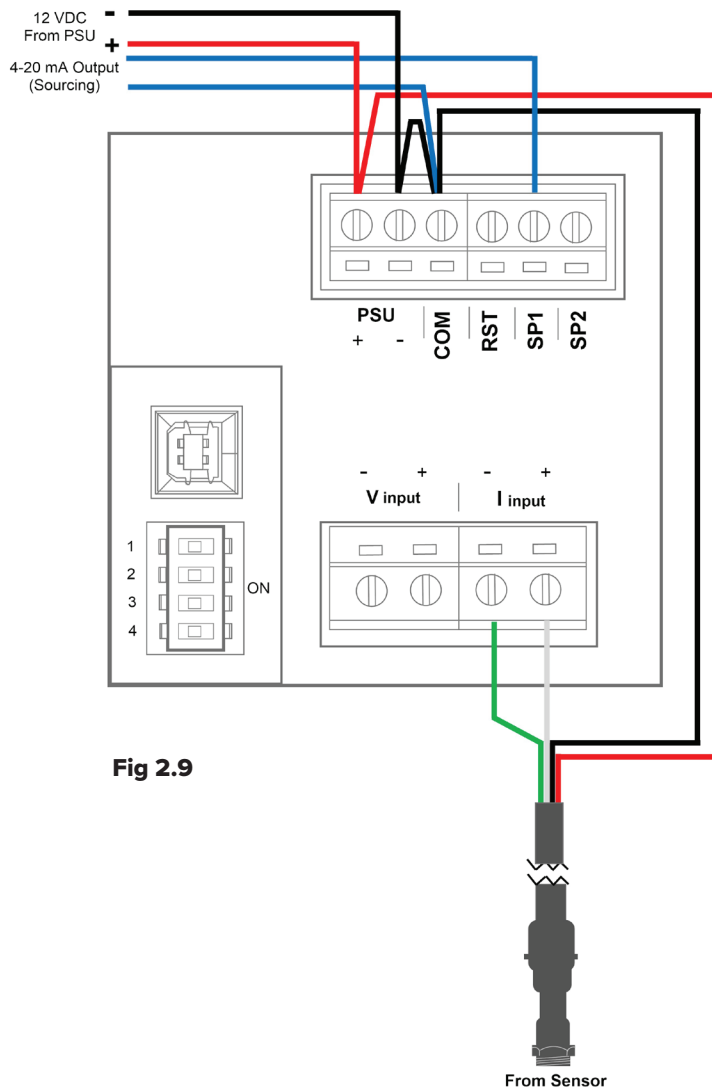

Fig 2.9
10. i) If being used, connect 4-20 mA output to external equipment such as a VFD (see Fig.2.9).